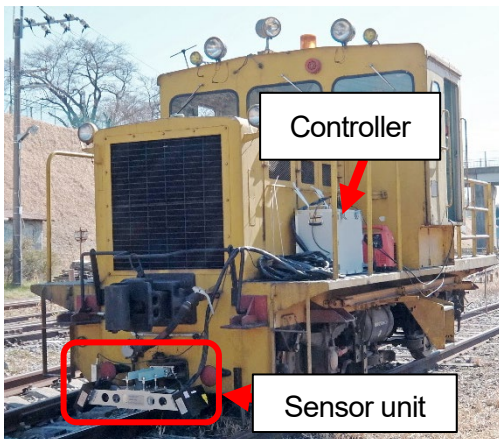

Fig. 1 TRACK²er mounted on a maintenance vehicle
- Since TRACK²er is a small-sized device (940×220×270 mm) and can be mounted on maintenance vehicles and commercial trains (Fig. 1), it is capable of measuring dynamic gauge and twist during maintenance work and commercial operation and makes the planning of measurement easier.